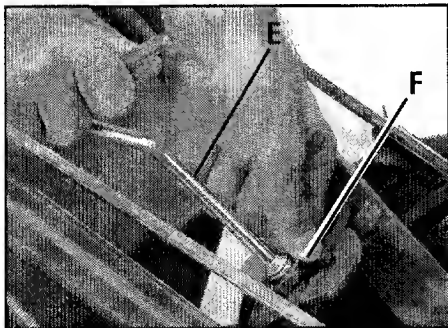

Figure 3-5: Height Adjusting Handle (E).
3. Loosen the height adjustment handle (E, Figure 3-5) and pull the keyed washer (F) free of the slots in the curved height adjustment bracket.